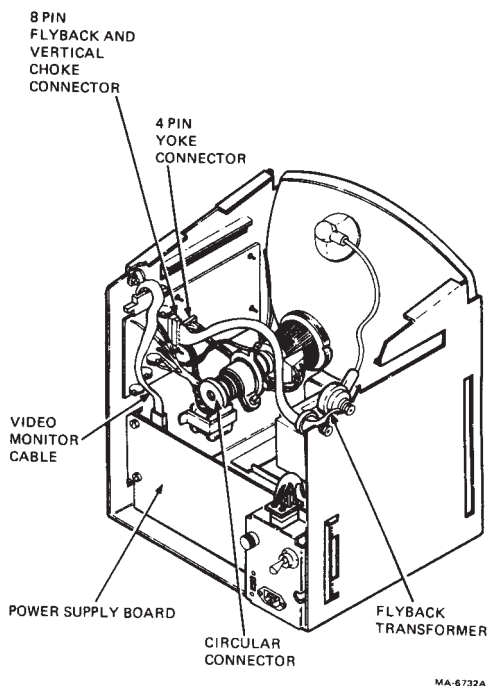

Figure 1-7 Terminal Part Locations
1. Turn the terminal power off and disconnect the 8-pin flyback transformer and vertical choke cable from the video monitor board (Figure 1-7).
4. Disconnect the 4-pin yoke cable from the video monitor board (Figure 1-7).
5. Disconnect the circular cable connector from the neck of the CRT by pulling the connector straight out (Figure 1-7).